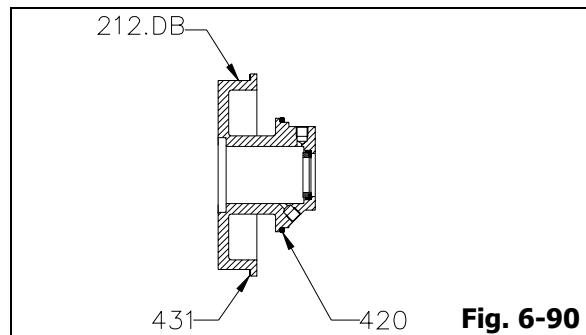

Fig. 6-90
3. Install stuffing box cover "O" ring (420) and stuffing box cover gasket (431) onto stuffing box cover (212.DB) (Fig. 6-90).